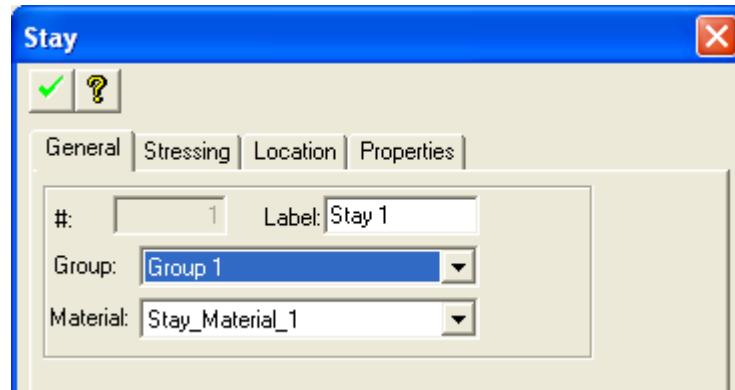

FIGURE 2.14-5 STAY PROPERTY BOX
- Click on the Create Stay  tool. The stay's property box opens as shown in **Figure 2.14-5** (if this is the option you have selected in the General Settings tool).